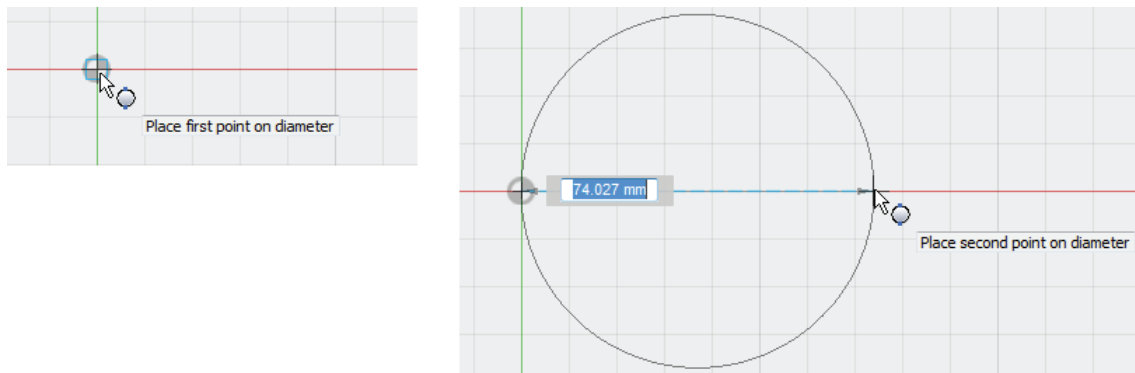

Figure-13. Creation of 2-point circle
- Click on the **2-Point Circle** tool of **Circle** cascading menu from **SKETCH** drop-down and specify the first point for circle; refer to Figure-13.